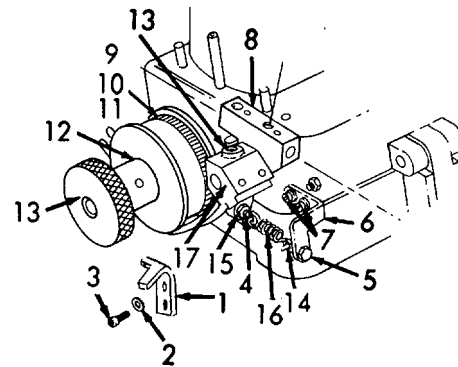

Figure 6-162. Belt Finger Holder Cushion Spring Holder, Installation.
- (10) Refer to Figure 6-162. Install bracket (1), two washers (2), and two screws (3).
- (11) Install stud (4), nut (5), bracket (6), and two screws (7).
- (12) Install cushion spring holder (8).
- (13) Install inner pulley (9), tapered pin (10), and set-screw (11).
- (14) Install outer pulley (12).
- (15) Install knurled knob (13) and tighten setscrews.
- (16) Install stud (14), nut (15), and spring (16).
- (17) Install belt finger holder (17) and setscrew (18).